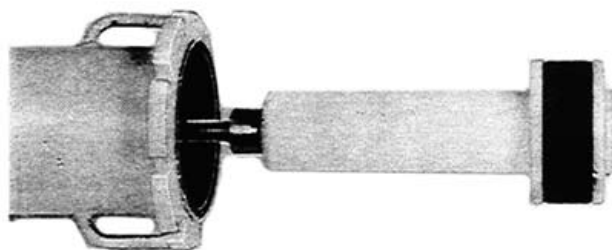

FIGURE 63
3. Attach special stopper to inserting bar of stopping machine by screwing coupler sleeve to stopper threads. **Figure 63.**